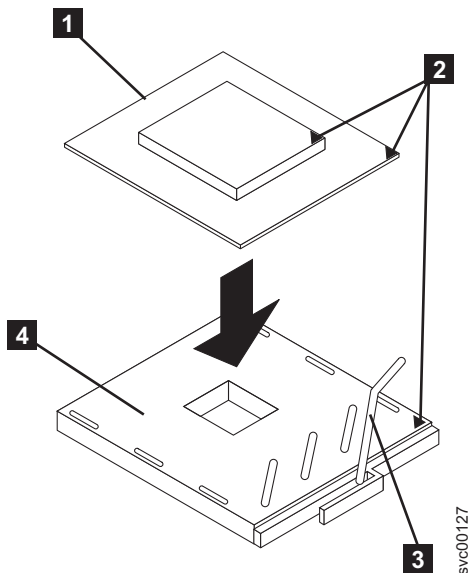

Figure 271. Microprocessor locking lever in open position
3. Rotate the locking lever **3** from the closed position to the open position, as shown in Figure 271.